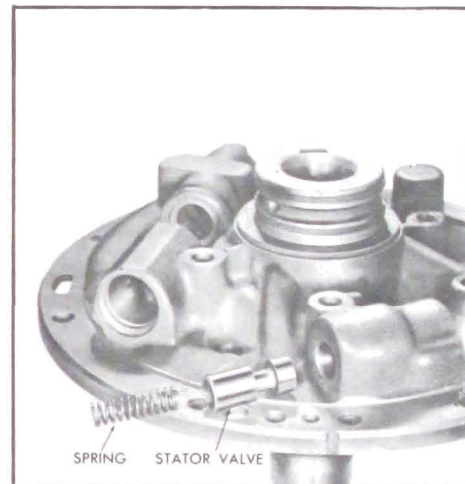

Figure 5-591
11. Remove stator valve and spring. See Figure 5-591.